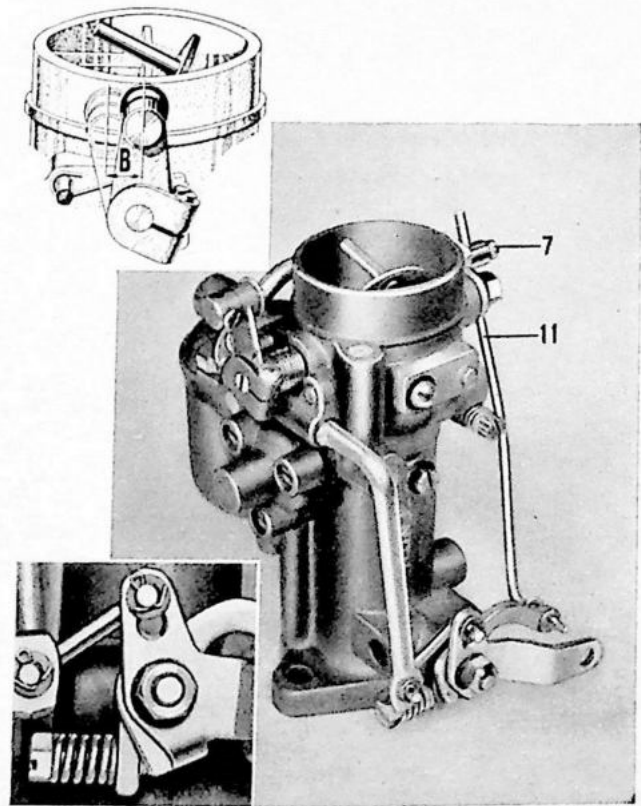

Fig. 99.
2. Loosen screw (7, Fig. 99) in connector rod support to allow connector rod (11) to slide in the hole.
3. Close choke plate corresponding to 7 mm = 0.27 in. (B) movement of choke plate lever.
4. Place connector rod lower lever in a position where its hook touches the throttle shaft lever, then tighten screw (7).
2. Close choke plate corresponding to 9 mm = 0.35 in. movement of choke plate lever, see B, Fig. 99.
3. Check that hook on fast idle connector rod lower lever just touches throttle shaft lever. If not, adjust with screw (7) as above.